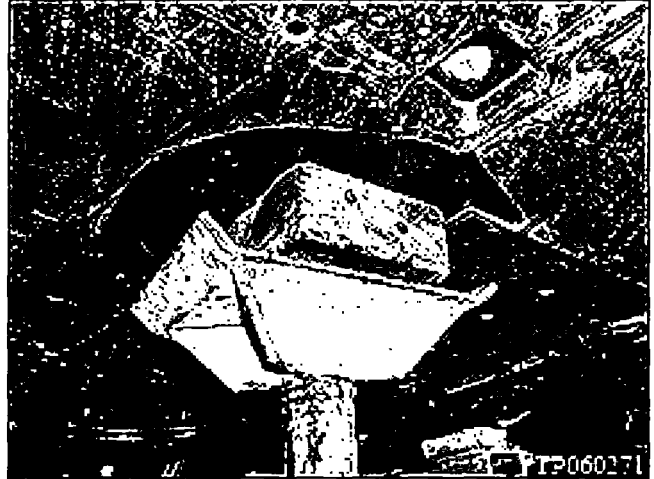

Figure 36A
- A. Make sure the additional support jack under the center of the front suspension member is in place and contacting the front suspension member. (see Figure 36A)